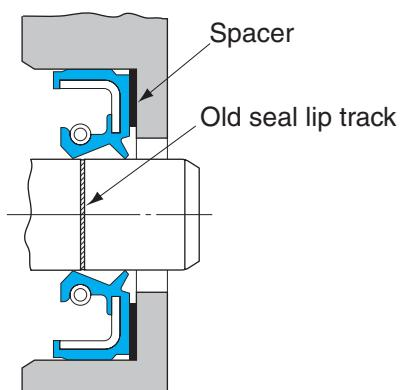

Fig. 1.7.11 Avoid old seal lip track
- 9) When oil seal is removed, use a new oil seal instead of the seal used. Contact position of new seal lip on the shaft should be displaced to 0.5 mm (1~2 mm for large-size seals) from the old seal lip contact position by applying spacer as illustrated bellow (Fig. 1.7.11).